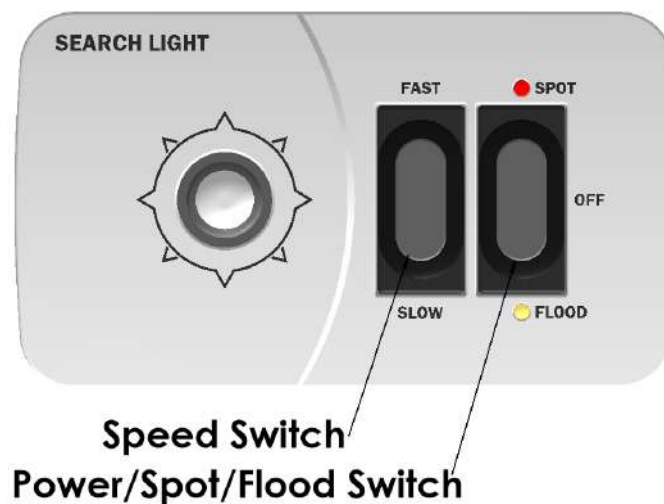

Fig. 8 Joystick Controller Panel Instruction (Model 13.225.49)
4. See Fig. 8 for Joystick Controller panel instruction.